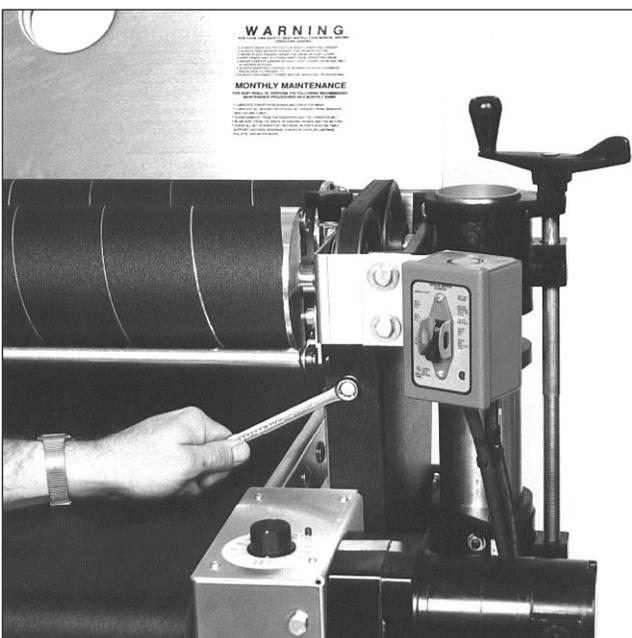

Fig. 29. Removing outer belt guard.
1. Disengage the outer belt guard cover by removing the four 10-32 screws and the two 5/16" x 1/2" bolts holding it in place. (Fig. 29). Take the V-belt off driven pulleys.
1. Remove the lower outer belt cover by removing the four 10-32 screws holding it in place (see Fig. 29 and 37). Remove the two 5/16" x 1/2" hex head bolts holding it in place; pull the middle cover to the left. Take the V-belt off the pulley (Fig. 38).